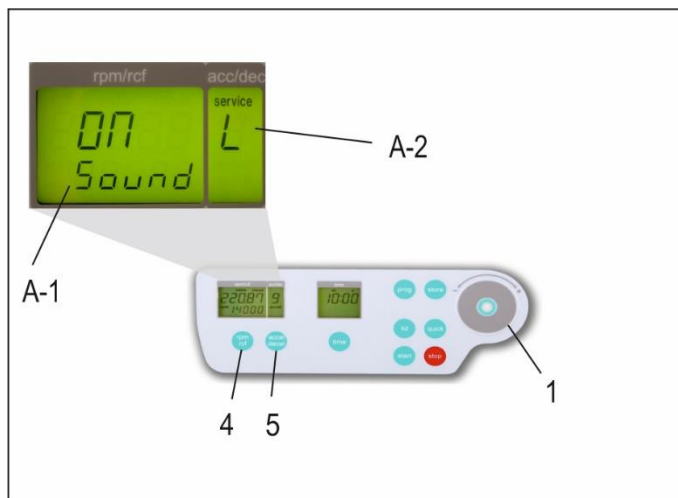

Figure 7
Proceed as illustrated, under point 1.8.1, to enter this program mode, press the key; "accel/decel" (5). In the display, "accel/decel" (A-2) flashes the word, "service". Select the letter, "L" with the control field (1). As a result, appearing in the display "rpm/rcf" (4), are the words, "On Sound". By pressing the key, "rpm/rcf" (4), the word "On" flashes, and the sound can be switched off with the control field (1), (see Figure 7).